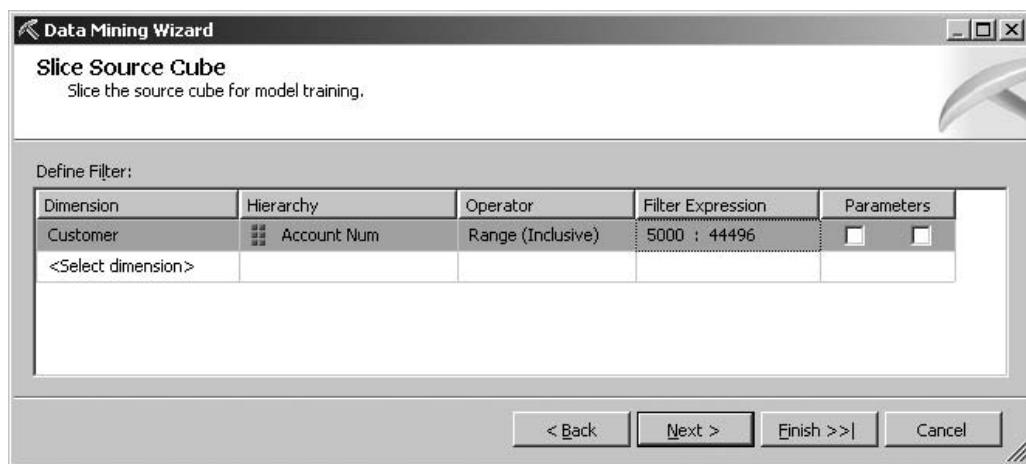

Figure 14-9 The Slice Source Cube page of the Data Mining Wizard
36. Select 44496 in the list and click OK. The Slice Source Cube page appears, as shown in Figure 14-9.